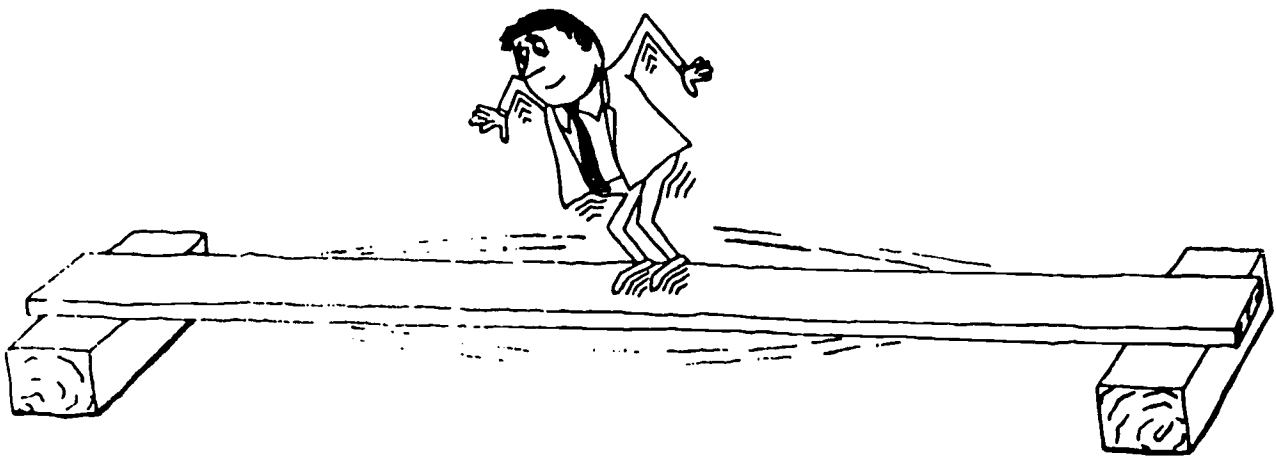

Figure 68. Testing a Scaffold Board
3. Test scaffold boards before using by jumping on them, as shown in figure 68.